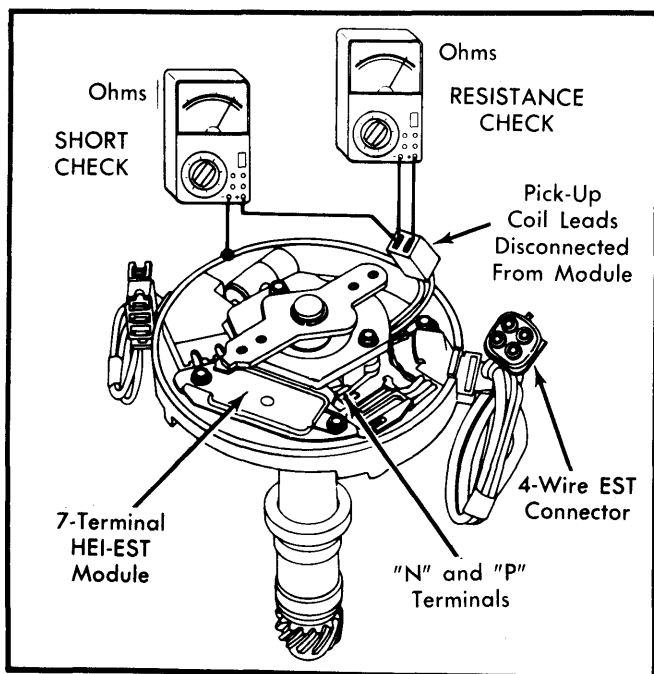

Fig. 8 Distributor Pick-Up Coil Short and Resistance Checks (Integral Coil)
1) Disconnect pick-up coil leads from HEI-EST module "N" and "P" terminals (usually a Green and a White wire). To check for shorted pick-up coil, set ohmmeter in middle range. Connect one lead to either pick-up coil lead and other lead to distributor housing. See Figs. 8 and 9. Reading should be infinite. If not, replace pick-up coil.
2) Connect ohmmeter leads to both pick-up coil leads, while flexing wires and connectors to locate intermittent opens. See Figs. 8 and 9. Resistance should read a constant unchanging value between 500 and 1500 ohms. If not, replace pick-up coil.